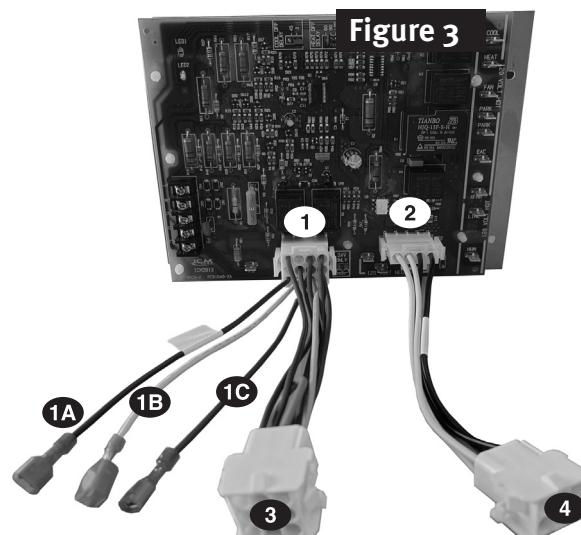

Figure 3
1. Plug 12-pin wiring harness supplied with the **ICM2813** board into the 12 pin socket on the **ICM2813** board as seen in Figure 3 location 1. It is a keyed connector and only connects one way. There are 3 wires which have 1/4" quick connects attached to the ends as seen in Figure 3 labeled 1A, 1B, 1C. Connect these wires as stated below:
2. Plug the 4-pin wiring harness into the **ICM2813** as seen in Figure 3 location 2. It only connects one way.
3. Connect the opposite ends of both harnesses labeled 3 & 4 on Figure 3 to the mating connections of the harnesses on the furnace.